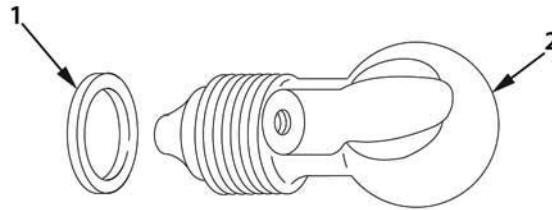

Figure 3. Removal of Thrust Washer Bearing.
6. If there is evidence of gas leakage (visible discoloration), remove and discard thrust washer bearing (Figure 3, Item 1) from breech plug (Figure 3, Item 2). It may be necessary to carefully cut it with a chisel and hammer in order to remove it.